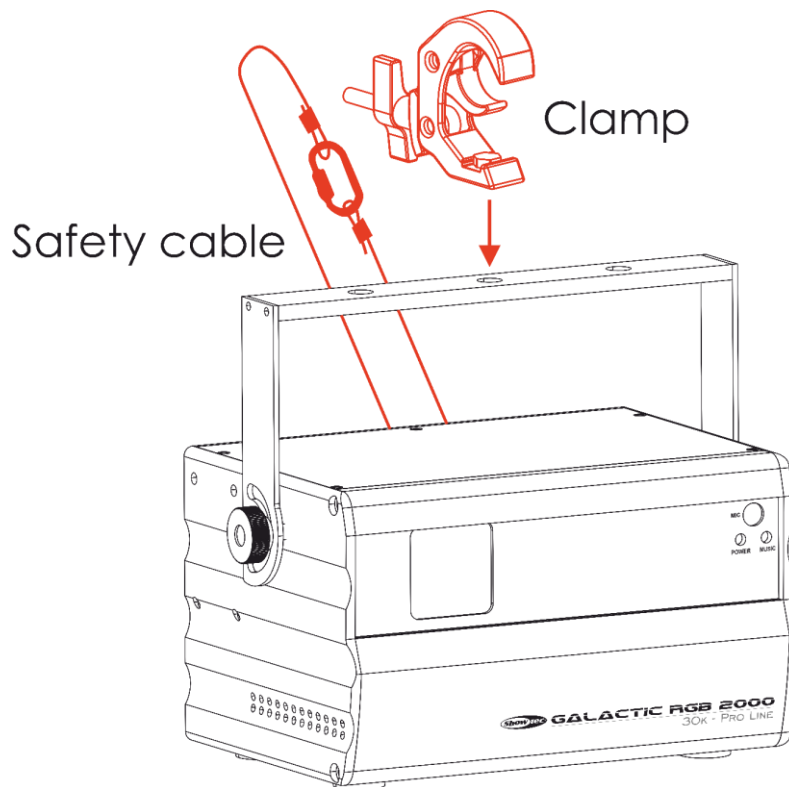

Fig. 09
- 01) Use a clamp to attach the device to the supporting structure, as shown in Fig. 09. Make sure that the device cannot move freely.
- 02) Secure the device with a secondary suspension, for example a safety cable. Make sure that the secondary suspension can hold 10 times the weight of the device. If possible, the secondary suspension should be attached to a supporting structure independent of the primary suspension. Put the safety cable through the **safety eye (10)**, as shown in Fig. 09.